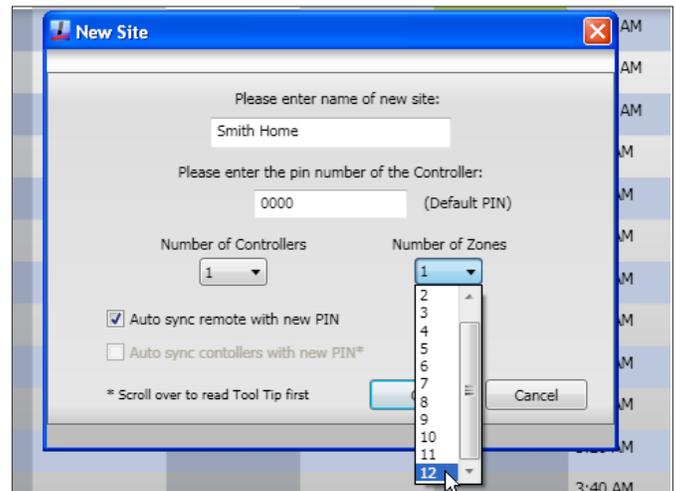

Figure 1.3
6. At the **New Site** dialog box (Figure 1.3), enter the preferred site name.